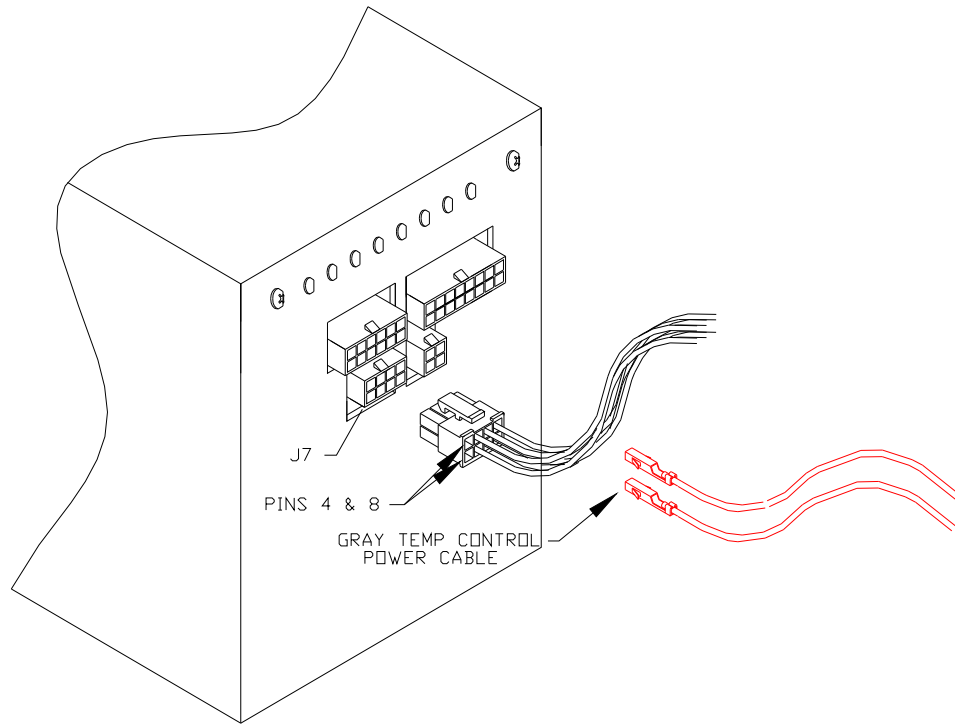

Figure 3
14. Insert the two connector pins on the gray temp controller power cable into pins 4 and 8 of J7. These pins should lock into the receptacle and should not pull back out. Figure 3 shows connector J7 with the pins installed.